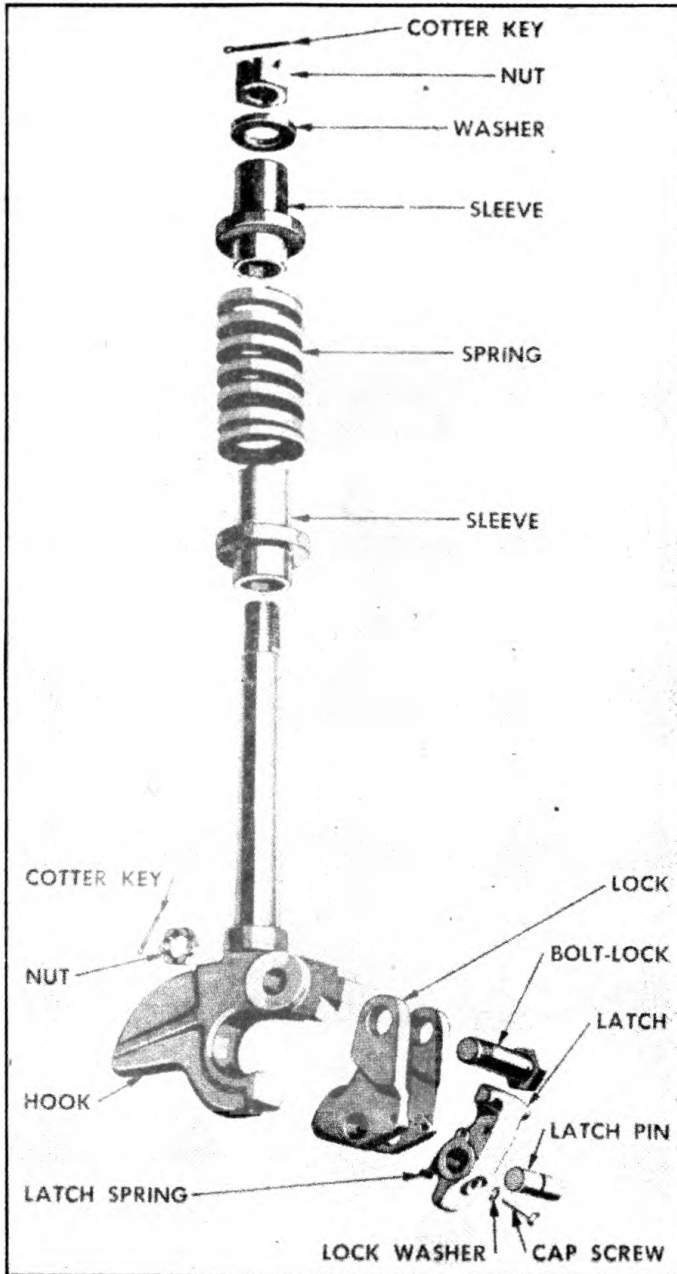

FIGURE 57. PINTLE HOOK—EXPLODED
2. **DISASSEMBLY** (Figure 57).—*a.* Place shaft end of hook (1) firmly in vice.
b. Remove cap screw (10) from latch and drive out latch pin (7).
c. Lift out the latch (3).
d. Remove cotter key (15) and nut (12) from the lock bolt (9) and pull bolt out.